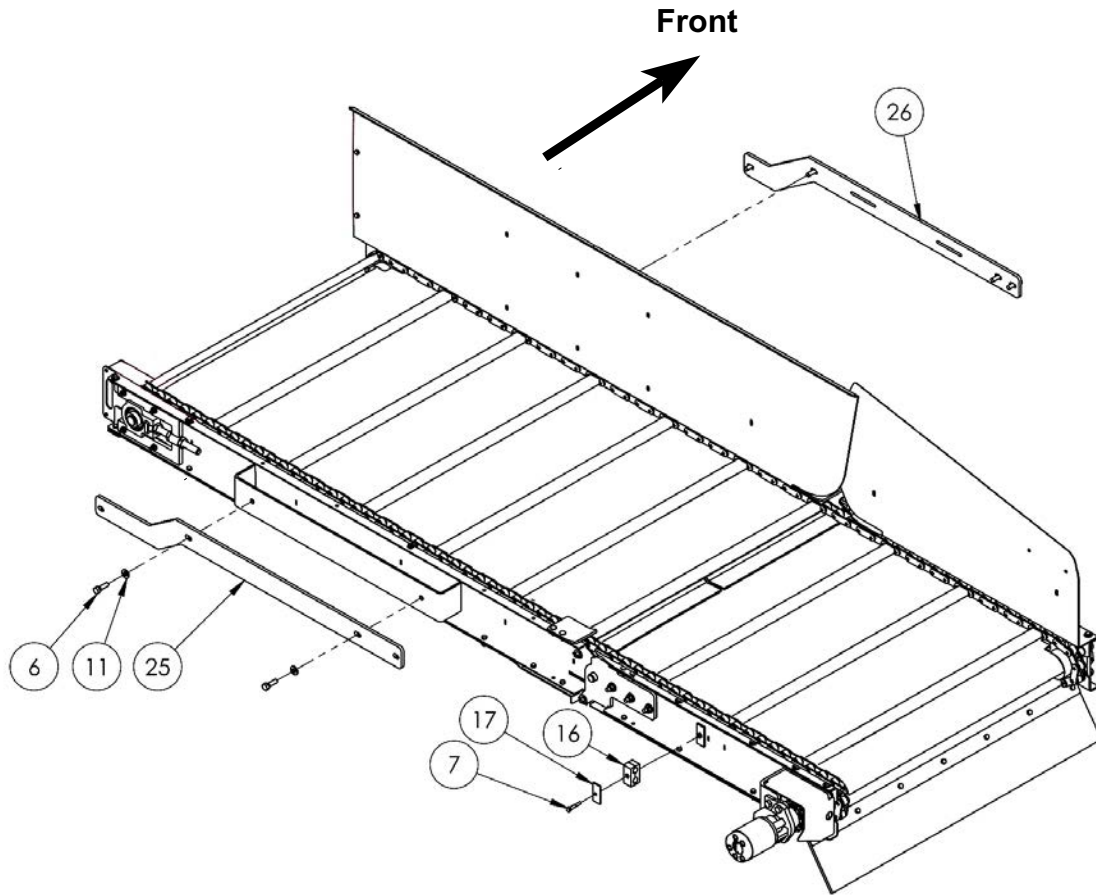

Figure 6: Fasten the Hydraulic Folding Conveyor
8. Fasten the conveyor to the support brackets (25 & 26) with 4 of 1/2" 1-1/2" hex bolt (6), 1/2" flatwasher (11) and flange locknut.
- See *Figure 6* below.
9. If not already attached, attach the hose clamp (16 & 17) with a 5/16" x 1-3/4" hex bolt (7) to the front of the conveyor, see *Figure 6*.